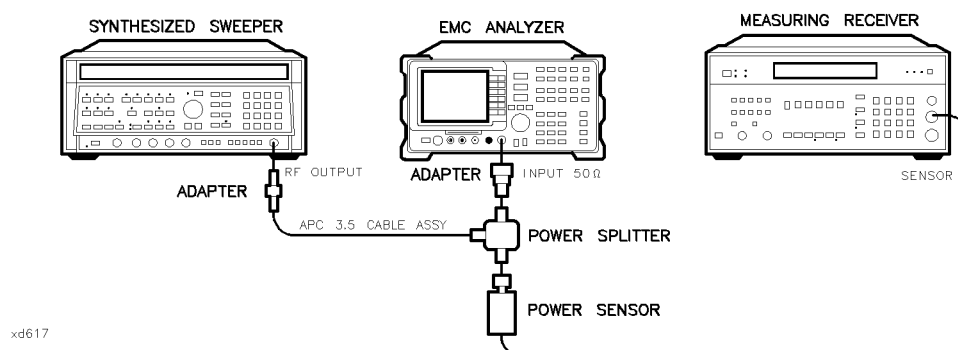

Figure 2-25. Frequency Response Test Setup, ≥ 50 MHz, HP 8593EM
2. Connect the equipment as shown in Figure 2-25.